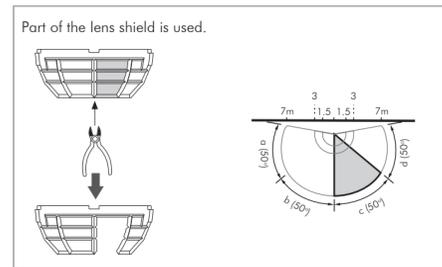

FIG. 13-B
- The shadow part of the lens shields in the FIG. 13-A & FIG. 13-B is needed to be cut off.